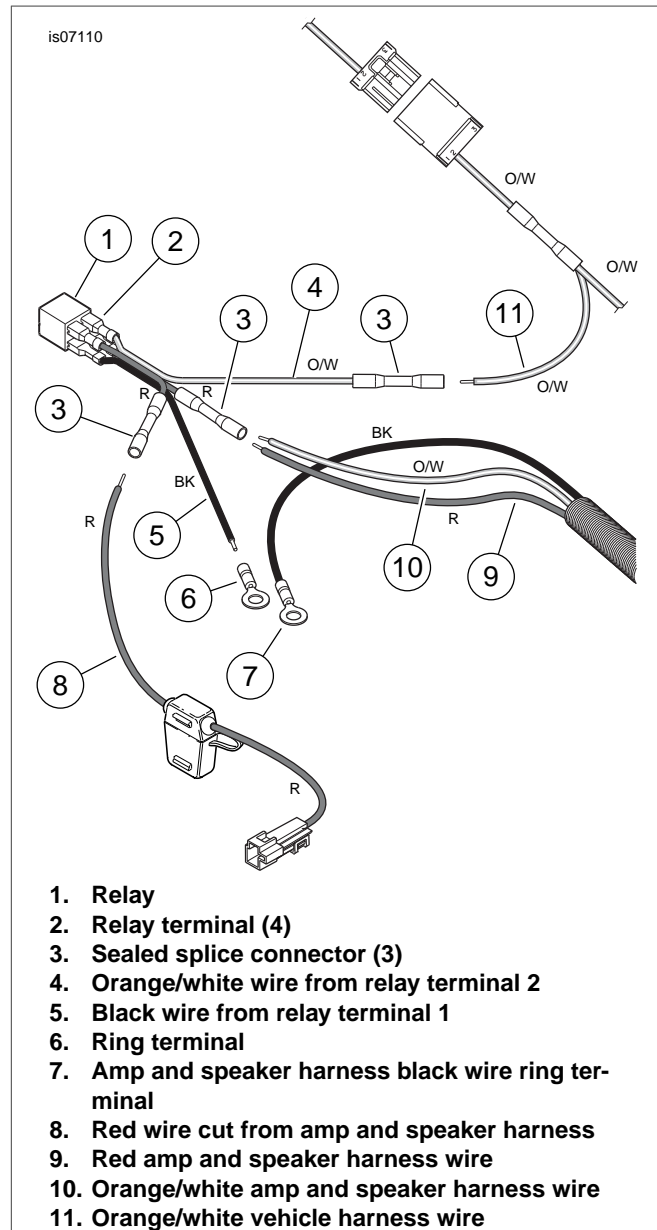
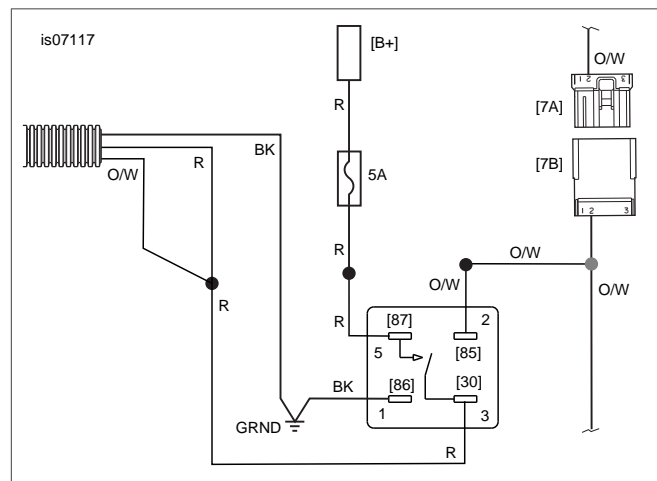

Figure 2. Relay Connections to Amp and Speaker Kit Harness
Figure 3. Wiring Diagram, Relay Connections
3. See Figure 2. Find a suitable location under the seat for the relay (1), so that the terminals (2) face **down or horizontally**. The terminals should not face upward.
- See Figure 2 and Figure 3. If not already in place, install a sealed splice connector (3) to the end of the red wire from relay terminal 3 per instructions in the service manual appendix.